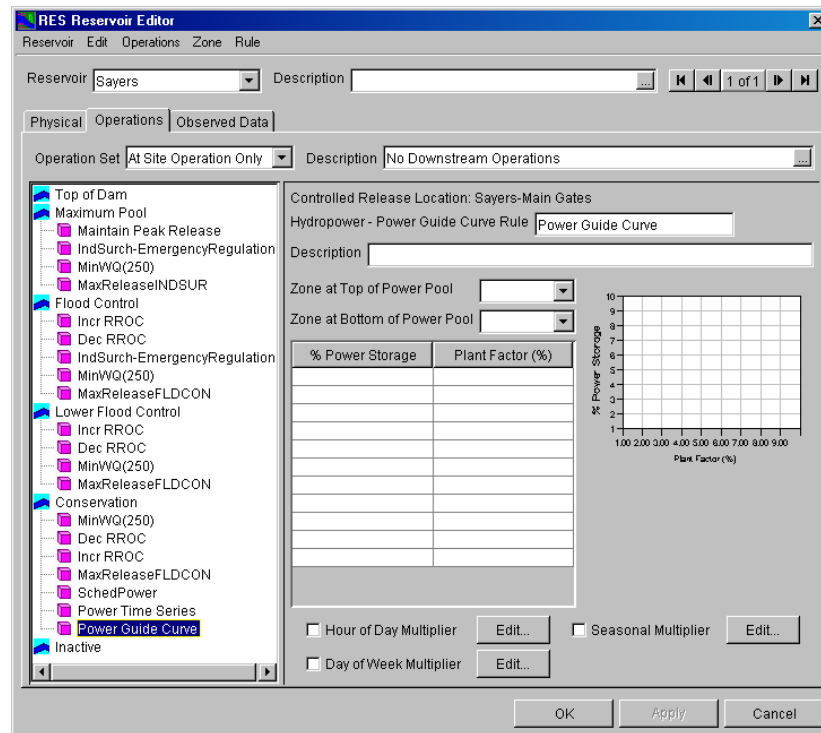

Figure 11.30 Hydropower – Power Guide Curve Rule Editor
- Highlight the appropriate rule in the operations tree to access the **Hydropower – Power Guide Curve** rule editor (Figure 11.30). The name and description of the rule will appear in the **Hydropower – Power Guide Curve** rule and **Description** fields.